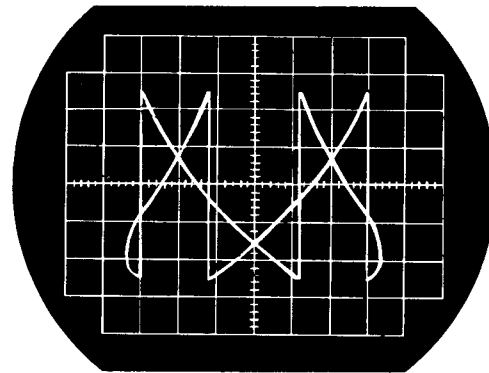

Fig. 18 Lissajous waveform
- Adjust VR₁ of the MPX AF assembly to stop the Lissajous waveform in the oscilloscope (see Fig. 18).